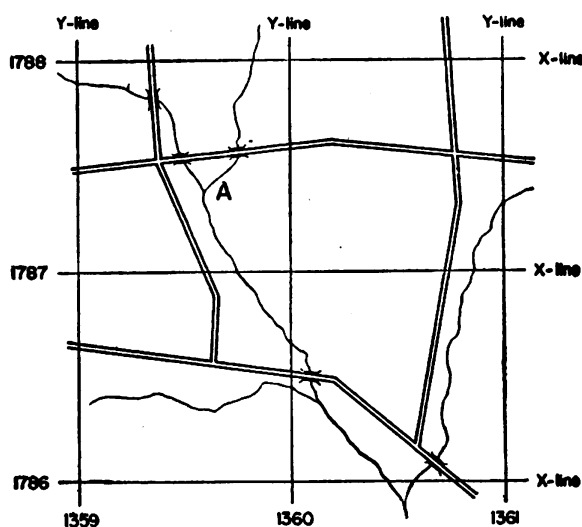

FIGURE 143.—Rectangular coordinates. 1,000-yard grid printed upon a terrain map (1 : 20,000 scale). (Not reproduced to scale.)
of the zone. In each zone the origin of coordinates, or zero point, is to the west and south of the zone, and hence all coordinates are positive. (See fig. 143.)
Q. What is a coordinate scale? Explain its use. **A.** A coordinate scale is a right-angled ruler made of thin metal, celluloid, or other material with scales on it equal in length to the grid interval of the map being used (fig. 143). To plot any point on the map, for in-
Q. How many norths are indicated on an artillery map? *A.* Three. True north, magnetic north, and grid north (fig. 143).
(1) True north is geographic north, or the direction of the North Pole.
(2) Magnetic north is the direction in which the compass points when used in the area covered by the map. The angular difference between true north and magnetic north is called the magnetic declination.
(3) Grid north is the direction in which the *Y*-lines of the coordinate system point.